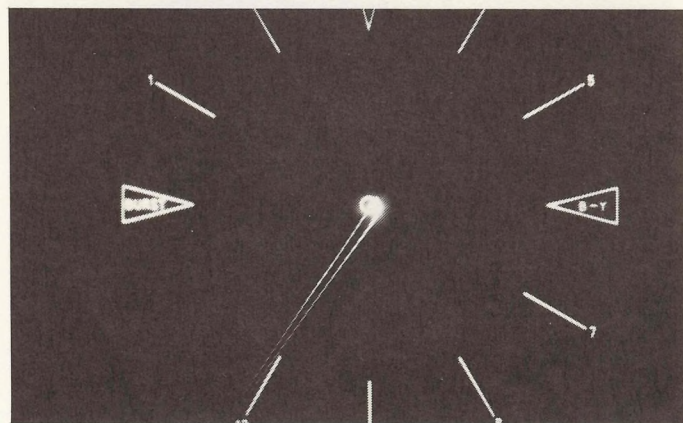

Fig. 16. Vector pattern obtained with no color output.
**Total loss of Color:** A total loss of color will result in no pattern except the blanking as shown in Fig. 16. The color oscillator, color killer, bandpass amplifier or demodulator could be at fault. Convert the PS163 from a vector scope back to a single or dual trace scope by pressing one of the other VERTICAL INPUT buttons and use normal troubleshooting procedures to locate the defective stage.